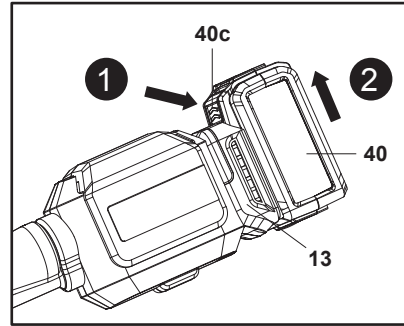

Fig. 22
2. Press the release button (40c) and remove the battery pack (40) from the battery docking port (13) (Fig. 22).